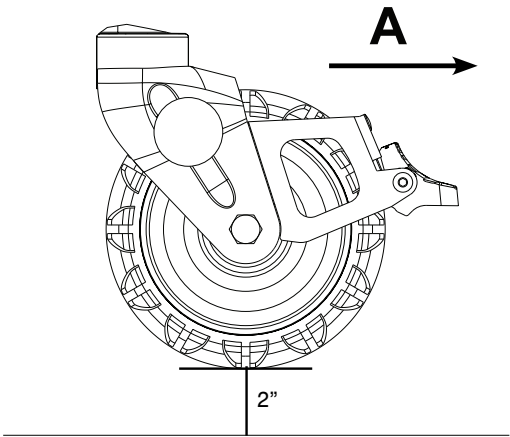

Figure 6 – Foot end cot wheel clearance
14. Using a tape measure, measure the distance from the bottom of the foot end cot wheel to the floor. The cot wheel should face the back of the vehicle patient compartment (A) (Figure 6). Make sure that the distance between the bottom of the foot end cot wheel to the floor is 2".